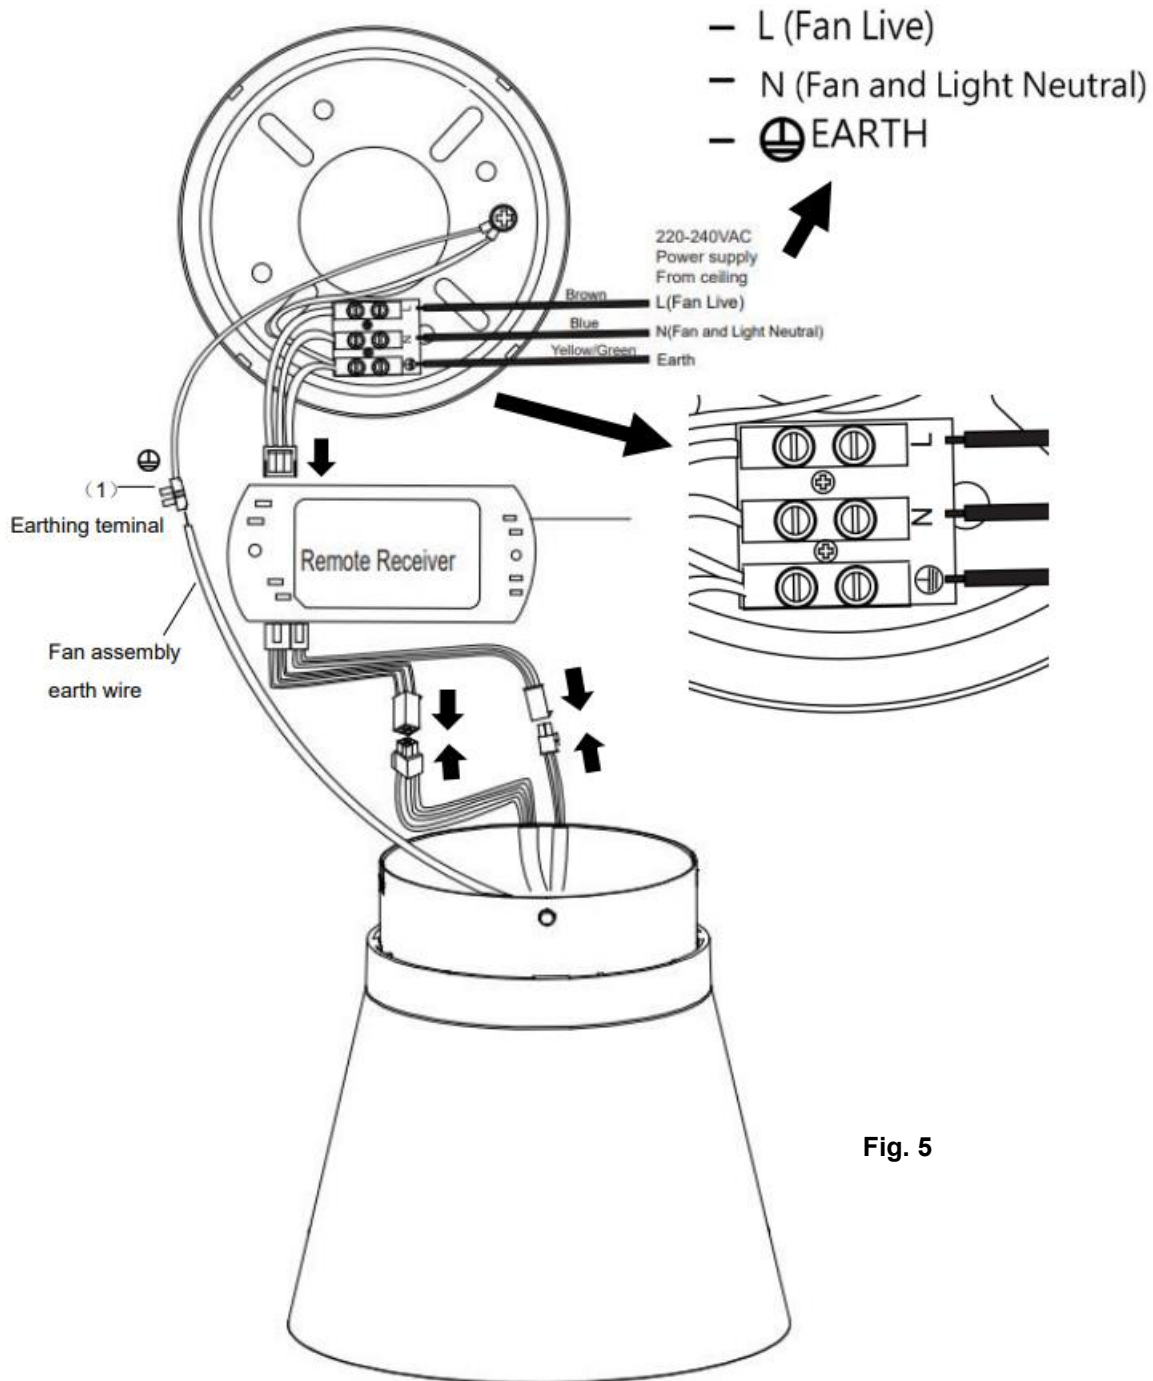

Fig. 5
**PREPARE AND COMPLETE THE ELECTRICAL WIRING --- WIRING DIAGRAM (FIG. 5)**
Ensure the motor earth wire is connected to the single earthing terminal block "1" in the diagram below. (Fig. 5)
**From mains supply to mounting bracket terminal block: (Fig. 5)**
**From mounting bracket to receiver and motor: (Fig. 5)**